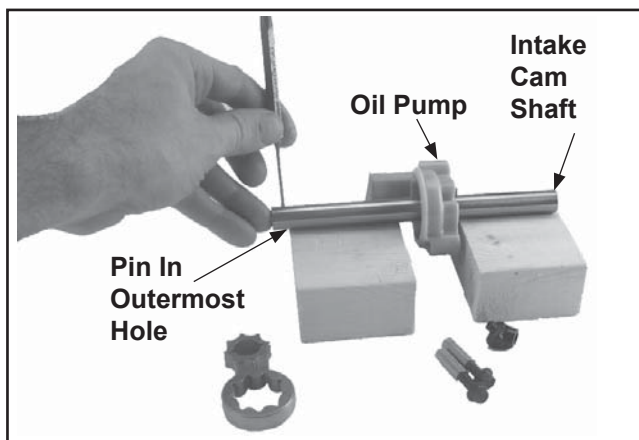

Figure 10-5. Installing Oil Pump and Lower Drive Pin on Intake Cam Shaft.
1. If the oil pump assembly was removed from the intake cam shaft, reassemble it onto the shaft. The press fit of the drive pins in the holes may be one of two designs. One style of tube has drive pin holes machined to be a clearance (slip) fit on one side and a press fit on the other accepting **smooth** style drive pins. Later design tubes have holes uniformly machined and use knurled style drive pins. Support the cam shaft (clearance holes "up", when applicable), and install the shorter **2.5 mm (0.098 in.)** diameter pin in the **outer** hole, closest to the bottom end. See Figures 10-5 and 10-6. Center the pin in the shaft.